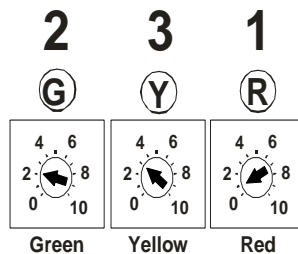

FIGURE 7
10. Before reinstalling the fuel tank bolts and the seat, verify your connections. Remove the door from the Fi2000 box to expose the LED's. The pot settings on the Fi2000 must be set to match the proper intake and exhaust configuration - Refer to Figure 7 and the **Advanced Tuning** section below to determine the proper configuration. Verify the wire connections by (1) turning the ignition on, prior to starting, and see if all three LED's are on steady. If you have no light, your ground connection (BLACK wire) has not made proper contact or the injector connections are not complete. (2) After achieving a steady light from all three LED's, start the motorcycle, wait 15 seconds and let it idle, the green light should now be the only LED on. If all three LED's are still on after start up, verify you have attached the injector connectors correctly. Reattach the door when finished. **Note:** Make sure the ignition is turned off before changing any connection.